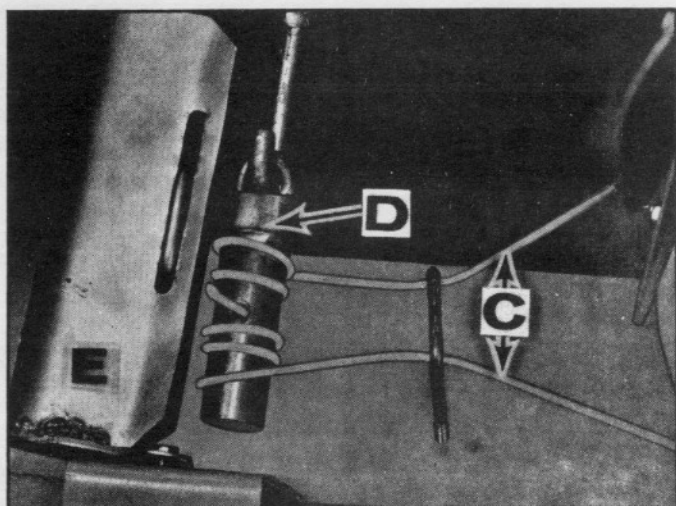

Fig. 10
Cable (C) is wound around tube (D) 2 1/2 turns each way. Both ends of cable should be equal length. (Fig. 10). This will allow the discharge chute to turn equal amounts in each direction from forward.